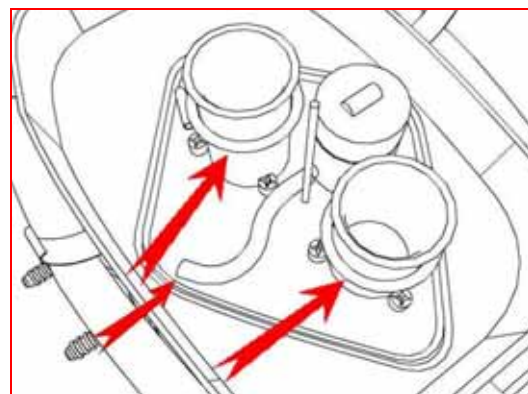

Fig 5
6. Pull the breather hose from the fitting inside the air box. Slide the large O rings up the stacks to access the stack mounting screws. (The O rings retain the screws should they become loose.) Remove the 6 screws and the velocity stacks. (See figure 5)